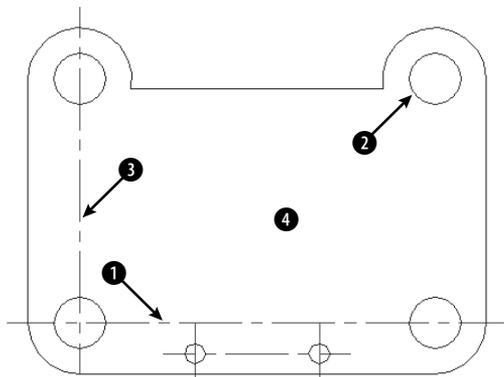

Figure 10-9: A tension arm for a commercial dryer.
2. Save the file as ab10-03.dwg in your AutoCAD Bible folder. It looks like Figure 10-9. Set a running object snap for center and turn on OSNAP.
Select object to offset or <exit>: Pick **1** in Figure 10-9.